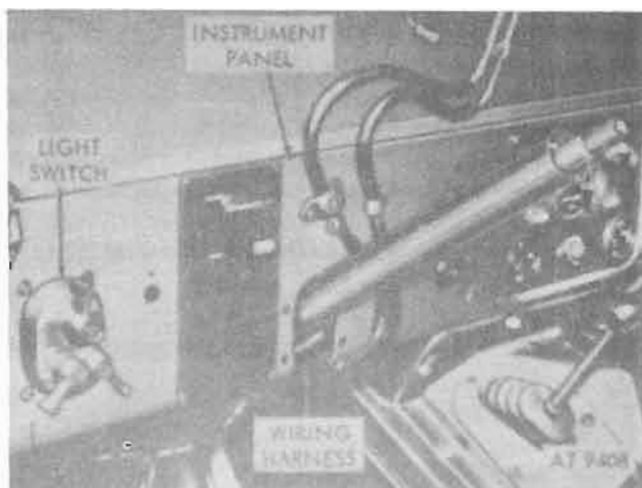

Figure 16-4. Instrument panel, light switch and wiring harness (M151, M151A1, M151A1C, and M718 vehicles).
- g. Hold column against top of slot in instrument panel and work harness out of lower flange of instrument panel (fig. 16-4).